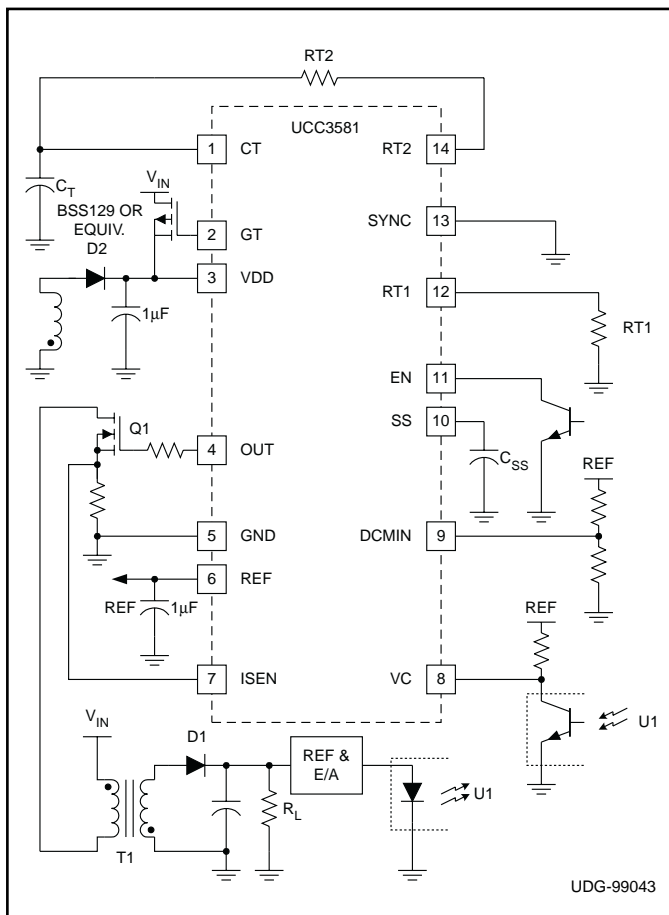

Figure 1. Application diagram.
See Application Diagram Fig. 1.
**RT2:** Resistor pin to program oscillator discharge time. The minimum value of RT2 is 10kΩ. See Application Diagram Fig. 1.
The UCC3581’s oscillator allows the user the flexibility to program the frequency and the duty cycle by adjusting two resistors and a capacitor. Application Diagram Fig. 1 shows these components as RT1, RT2, and CT. RT1 programs the timing capacitor charging current which results in a linear ramp charging CT. Discharge of CT is accomplished through RT2 which results in a standard RC discharge waveform. The oscillator on-time (CT charging) is calculated by the formula